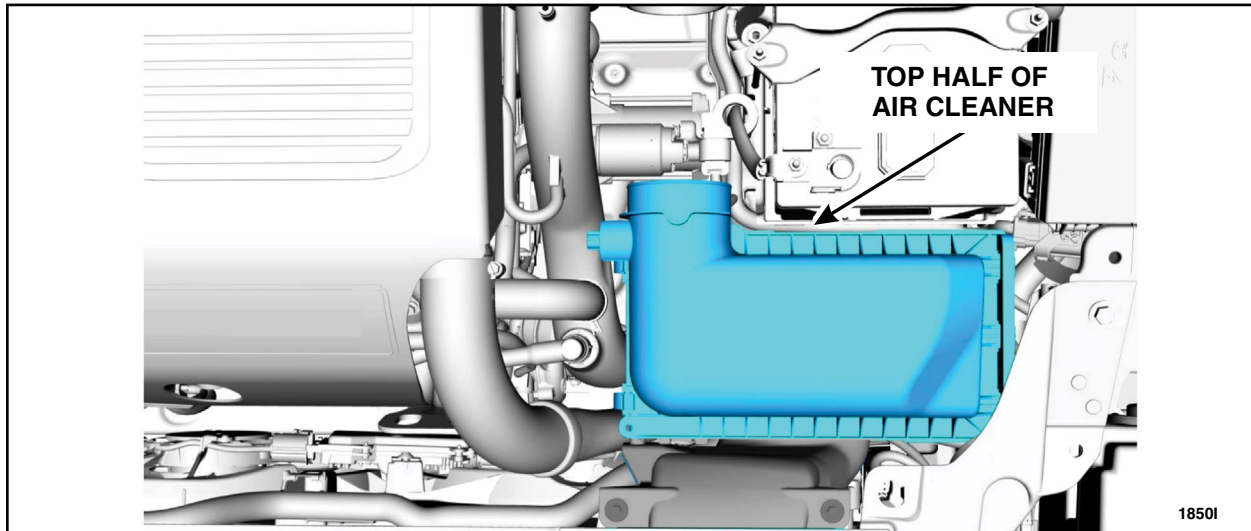

FIGURE 14
2. Remove the upper half of the air cleaner. See Figure 14.